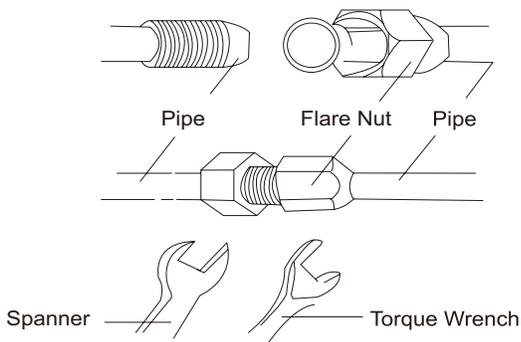

Fig.5
- After that, tighten the screw by the torque wrench unit it clicks (as shown in Fig.5).